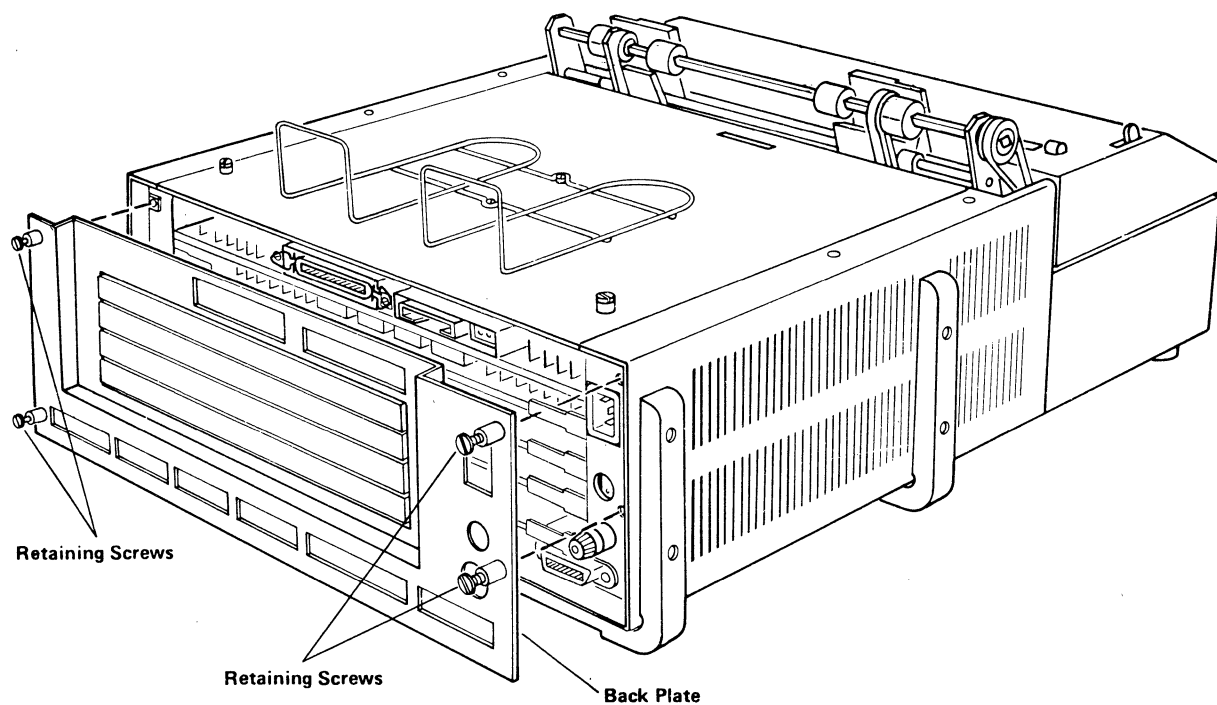

Figure 1-10. Processor Unit Back Plate.
7. Remove the back plate from the processor unit by loosening the four (4) retaining screws at the four corners of the plate and pulling it away (See Figure 1-10). NOTE: If your system has been updated with the Release 1.1 upgrade kit, it will be necessary to remove the eight additional screws that hold the back plate to the I/O connectors on the planar board.